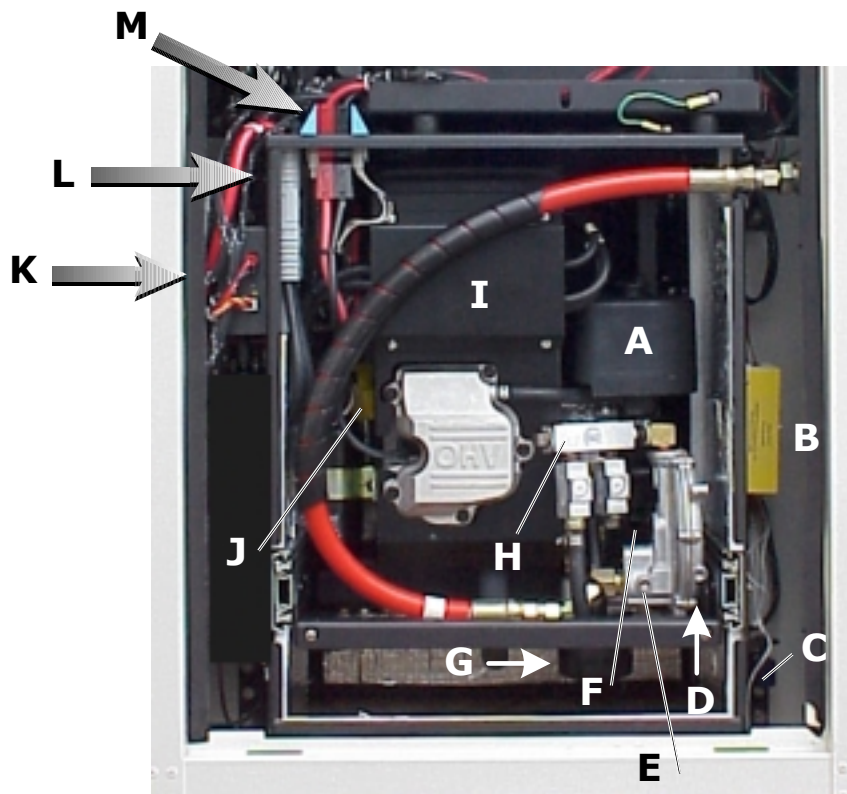

Fig. 3-1 APU compartment
6. Remove gas port plug from input side of demand regulator, install brass manometer port connection fitting and connect manometer to fitting (Refer to fig. 3-1, and Section 3-17 for further details).